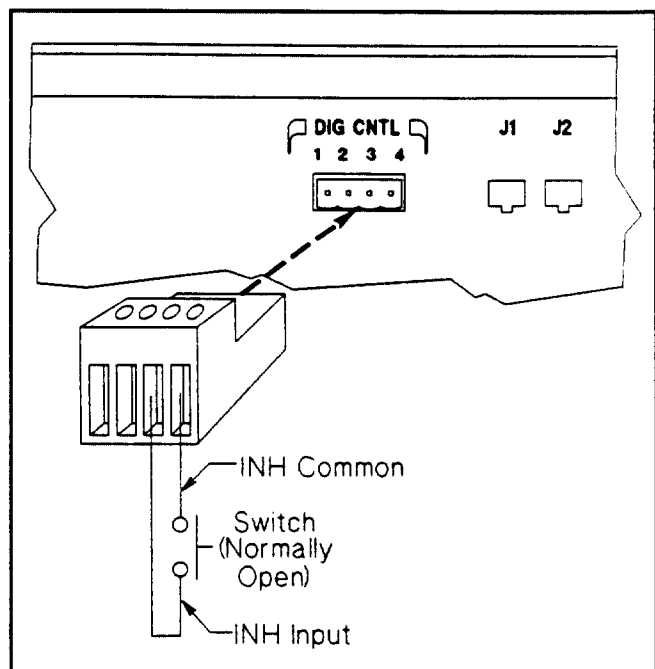

Figure D-2. INH Example
In Figure D-2, the INH input is connected to a switch that shorts pin 3 to pin 4 whenever it is necessary to externally disable the output of the supply. This will activate the remote inhibit (RI) fault protection circuit, causing the front panel **Prot** annunciator to come on. It also sets the RI event bit in the supply's Questionable Status Event register (see Chapter 8). To re-enable the supply after it has been disabled by the INH input, first open the connection between pins 3 and 4. Then clear the protection circuit either from the front panel (see Chapter 5) or over the HP-IB (see Chapter 7).